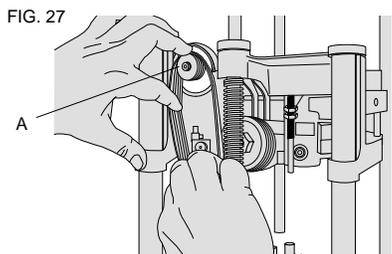

FIG. 28
- Figure 28** - Guide the belt between the lower pulley and the height adjustment screw (B).